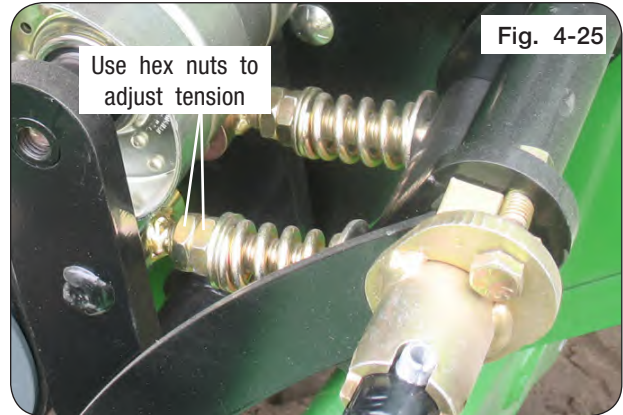

Fig. 4-25
5. Belt tension is adjusted with hex nuts below the spring. All belt tension **MUST** be released from linkage. Loosen outer hex nut and adjust inner nut to establish a $3 \frac{1}{16}$ " pre-load dimension between the heavy washers. Tighten the outer hex nut against inner nut to lock position. (Fig. 4-25)